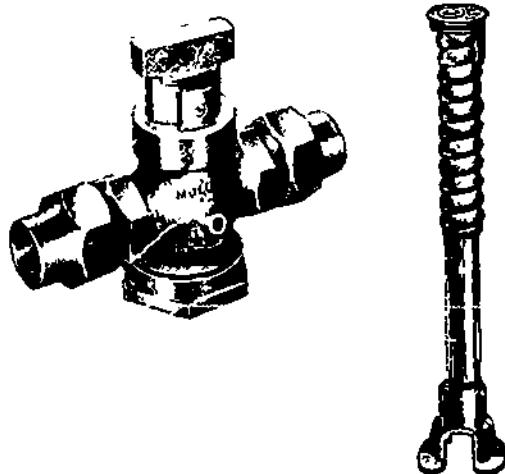

Figure 7-15. Curb Stop
1. A curb stop (Figure 7-15) is generally installed on the water-service pipe at the property line. In many cases, the stop is accessible through a cast iron curb-stop box that extends from the valve to the surface of the ground. Shown also is a long-handled key wrench that turns the valve on or off.